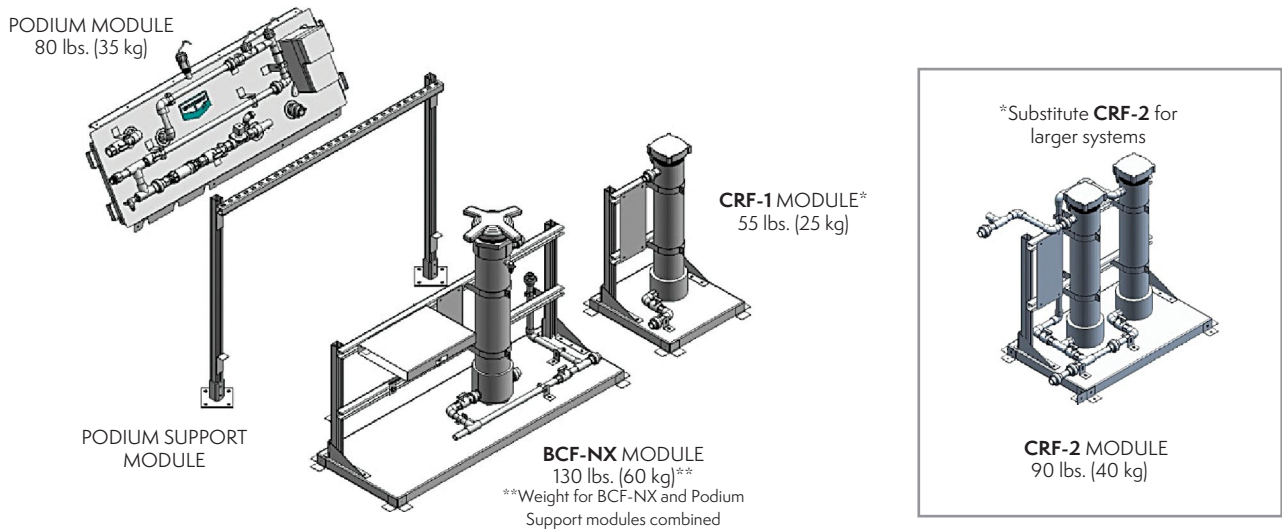

Figure 3 – CRF System Overview of Modules
2.3 The **CRF** system consists of four modules: **BCF-NX**, Podium, Podium Support, and **CRF**. See Figure 3.